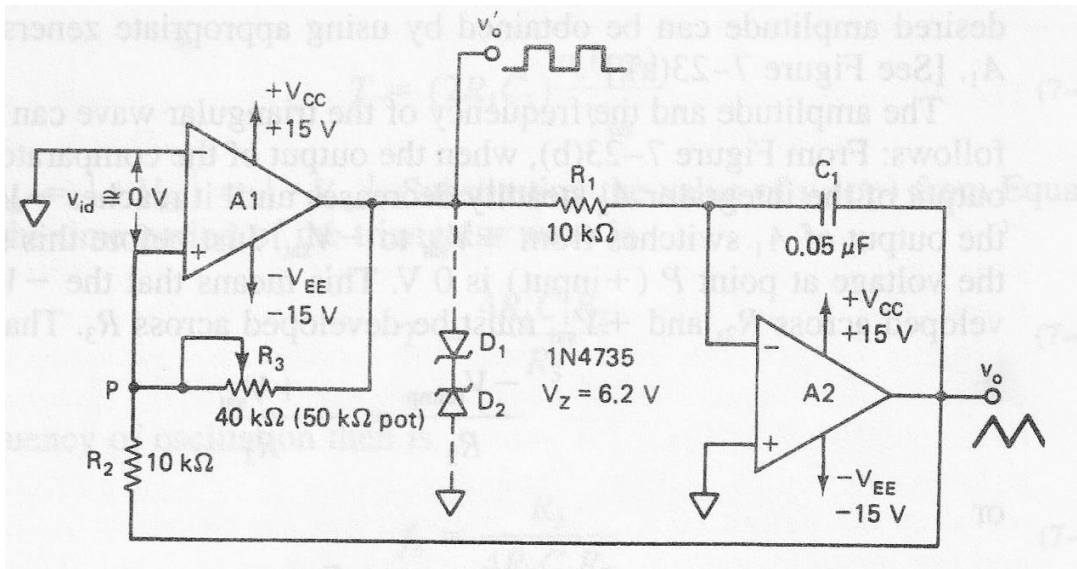
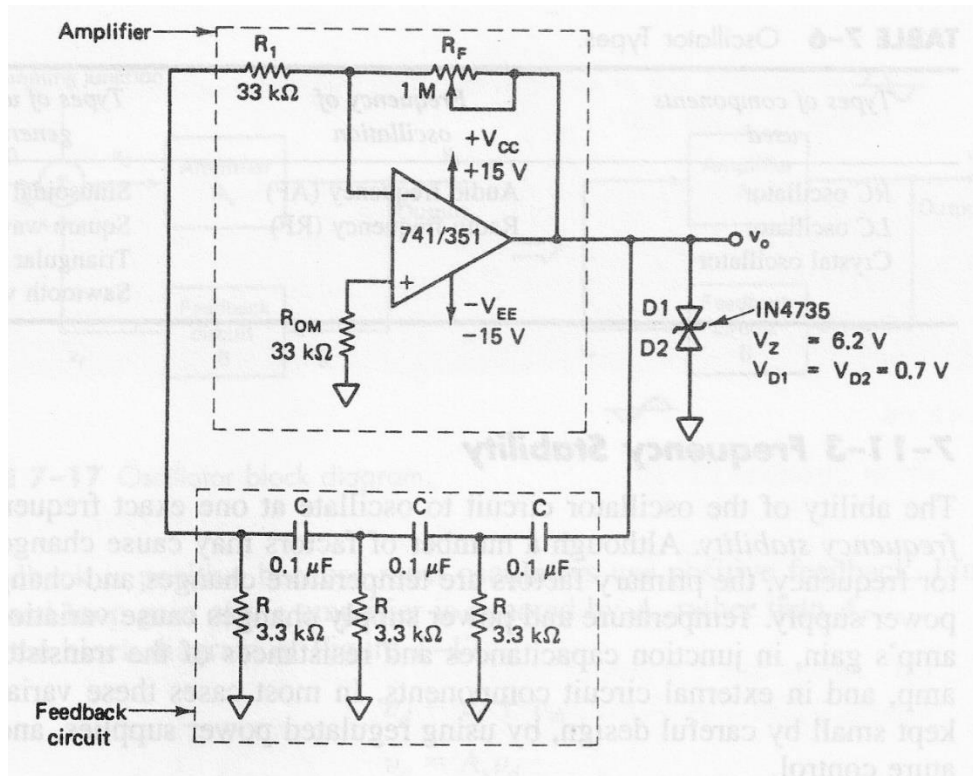

Fig. 5.1. Circuit diagram of a triangular wave generator
Fig. 5.3 Circuit diagram of a RC phase shift oscillator
A triangular wave generator circuit is shown in Fig. 5.1. It consists of a comparator and an integrator. When the voltage at P goes slightly below or above 0 V, the output of the first OPAMP (A1) is at negative or positive saturation level, respectively. Let us assume the output of A1 is at positive saturation level  $+V_{sat}$ . This  $+V_{sat}$  is an input of the integrator A2. The output of A2, therefore, will be a negative-going ramp. Thus one end of the voltage divider  $R_2$ – $R_3$  is at the positive saturation level of A1 and the other is the negative-going ramp of A2. When the negative-going ramp attains a certain value  $-V_{Ramp}$ , point P is slightly below 0 V; hence output of A1 will switch from positive saturation to negative saturation  $-V_{sat}$ . This means that output of A2 will now stop going negatively and will begin to go positively. The output of A2 will continue to increase until it reaches  $+V_{Ramp}$ . At this time point P is slightly above 0 V; therefore output of A1 switched back to the positive saturation level  $+V_{sat}$ .
Schematic diagram of an OPAMP phase shift oscillator is shown in Fig. 5.3. In the circuit the OPAMP has been used in the inverting mode; therefore, any signal that appears at the inverting terminal is shifted by  $180^\circ$  at the output. At the resonance frequency  $f_o = 0.065/RC$ , the cascaded RC network provides another  $180^\circ$  phase shift; thus the total phase shift around the loop becomes  $360^\circ$  or  $0^\circ$ . At this frequency the gain of the amplifier must be at least 29, (i.e.,  $R_F = 29R_1$ ). To avoid loading effect we must set  $R_1 \geq 10R$ . A desired output can be obtained by using back-to-back Zener diode, as shown.
1. Connect the circuit as shown in the Fig. 5.1 / Fig. 5.3 on the breadboard / Multisim software (for software simulation) and check the connections. You can initially neglect the diodes.
1. What will happen if a fixed reference voltage, instead of ground, is connected at non-inverting terminal of integrator in Fig. 5.1?